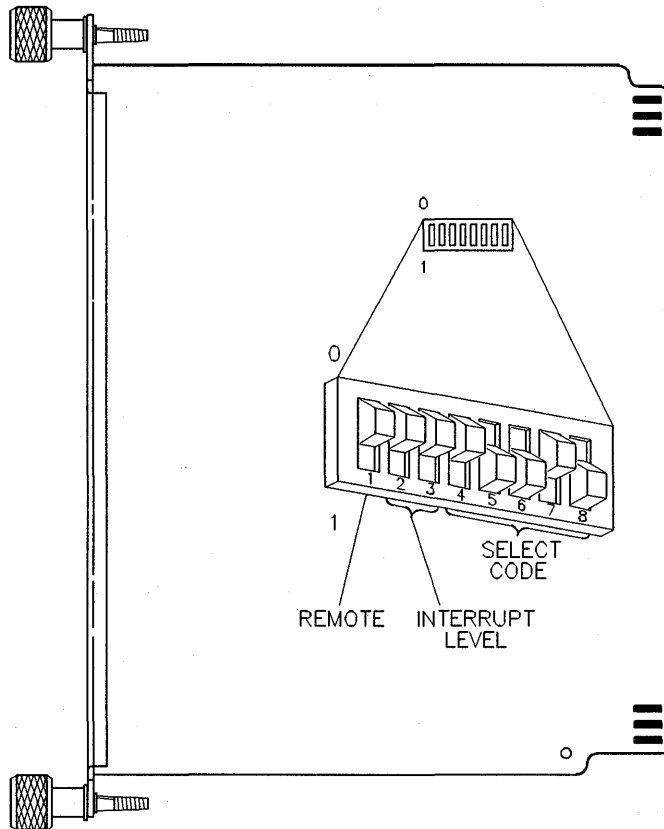

Figure 10-7.
Refer to Figure 10-7 for switch and jumper positions.
2. Find the group of eight switches on the interface by referring to Figure 10-7. Switches 4 through 8 in this group determine the select code.
1. Find the group of eight switches on the interface by referring to Figure 10-7. Switches 2 and 3 in this group determine the interrupt level.
1. Find the group of eight switches on the interface by referring to Figure 10-7. Switch 1 in this group is the Remote switch.
- If you are connecting a terminal to port 1 of this interface and want the terminal on port 1 to be the system console, set this switch to *1* (remote), which is *opposite* that shown in Figure 10-7.
- If you are connecting a terminal to port 1 of this interface but *do not* want the terminal on port 1 to be the system console, set this switch to *0* (local) as shown in Figure 10-7.